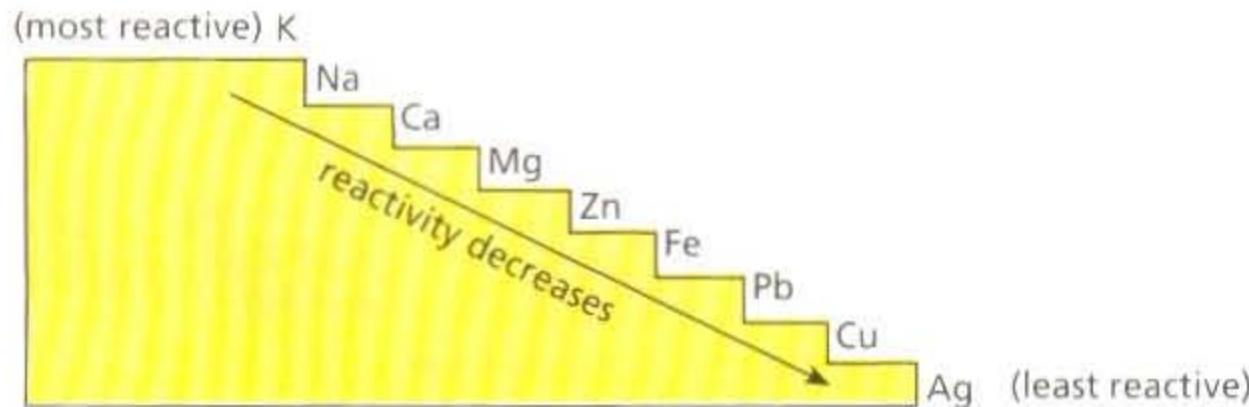

Fig. 14.8 Order of reactivity of metals
- the reactivity of metals is in the order shown in Fig. 14.8.